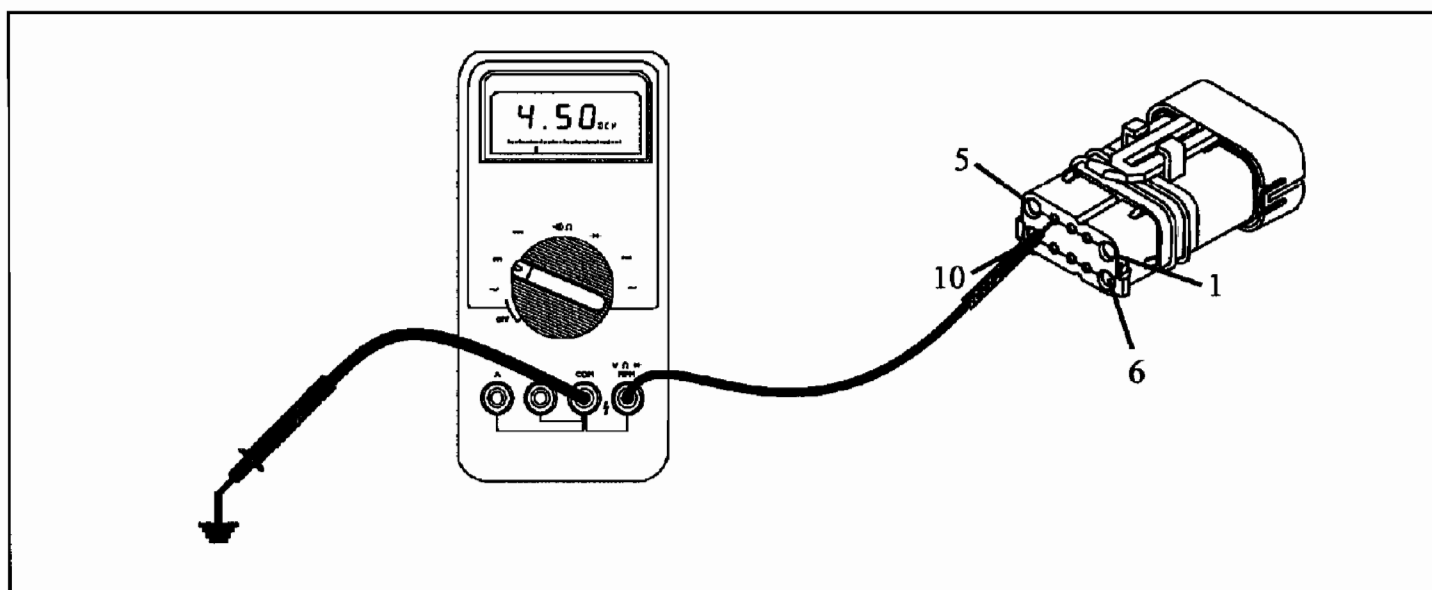

Figure 1
1. If gear ratio code 51-54, or RPM sensor codes 56-58, or code Shift Signal Code 28 accompanies code 74, these codes should be placed first in the diagnostic routine. Once gear ratio codes, speed sensor codes and TRS code has been eliminated, road test the vehicle. If code 74 reappears without other codes, unplug the TRS connector. Place the ignition to the "ON" position. With a volt meter placed to DC volts, put the negative lead to a good known ground. With the positive lead, check terminal 4 for voltage (See Figure 1).